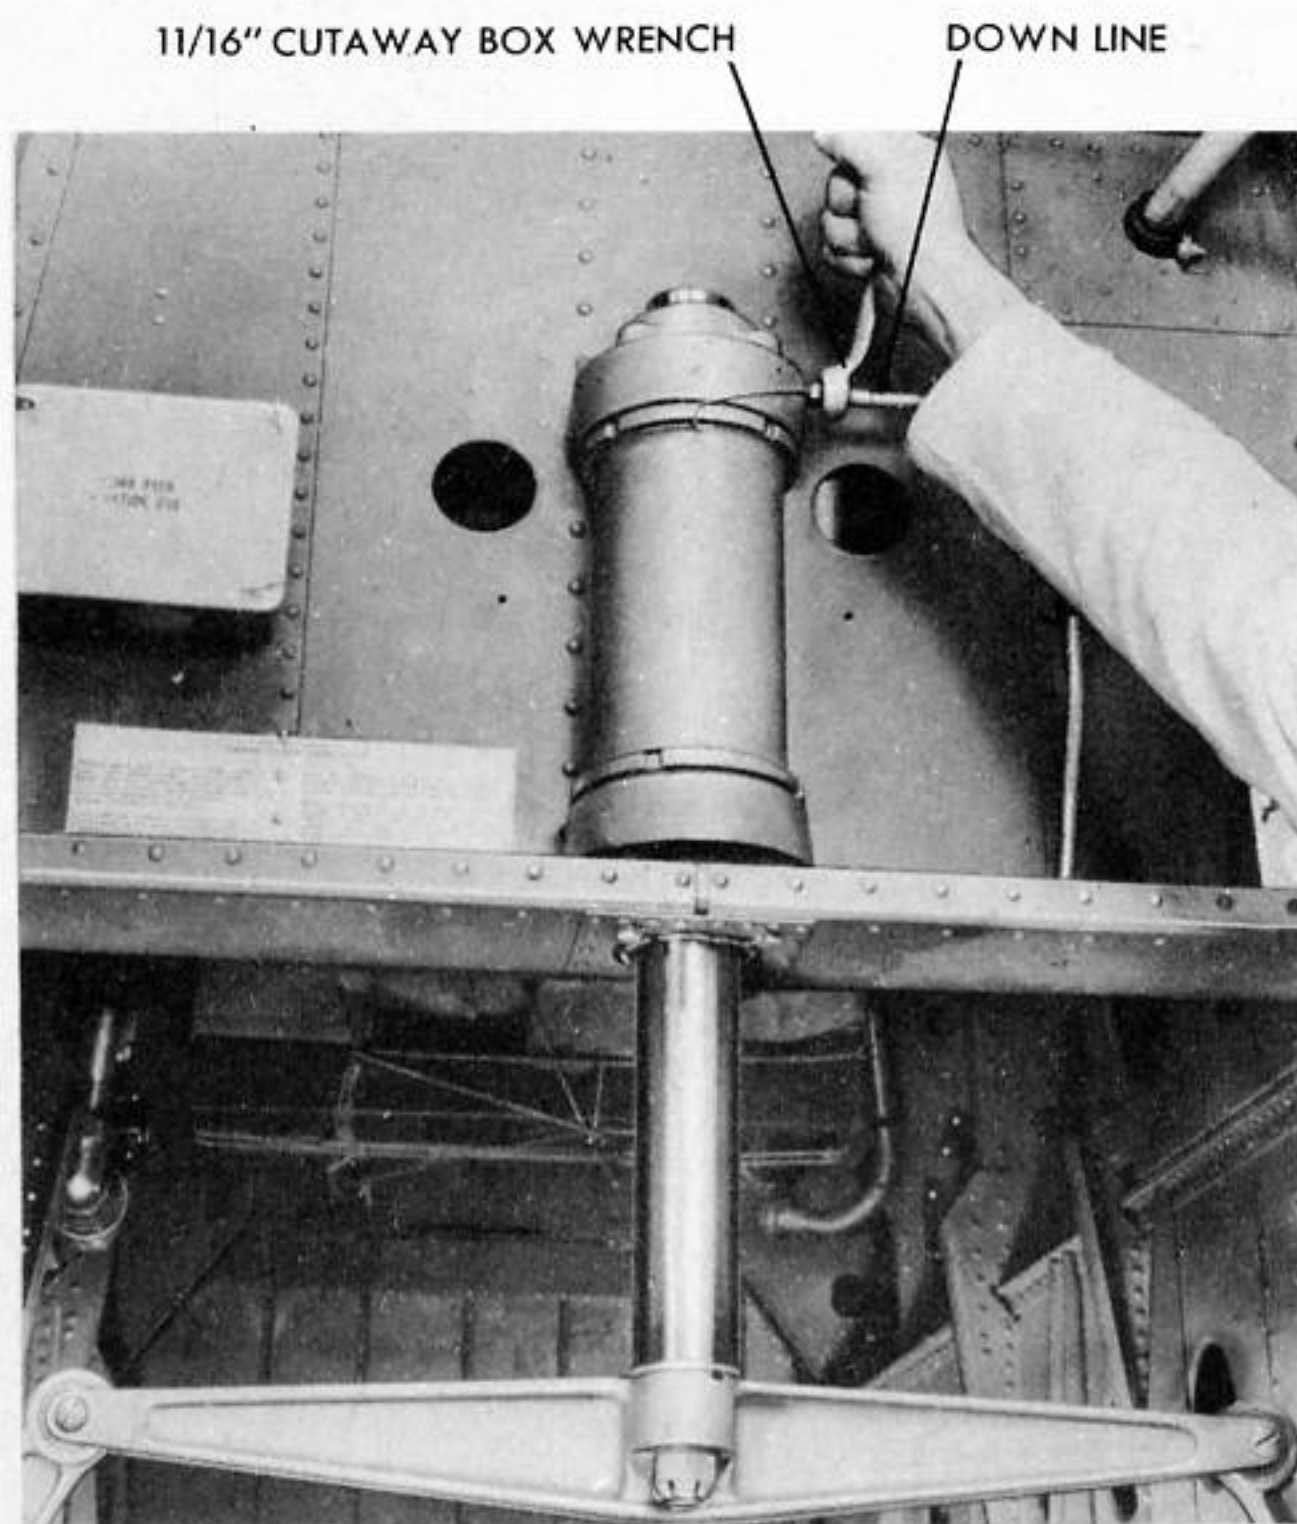

Figure 215 - REMOVING BOMB BAY DOOR ACTUATING STRUT
(33) REMOVAL OF BOMB BAY DOOR ACTUATING STRUT. (See figure 215.)